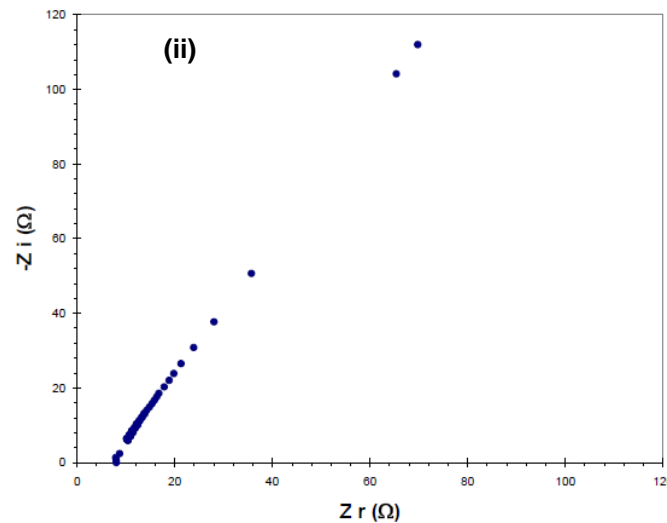

Figure 2 / Rajah 2
- [d] Figure 2 (i) and (i) show the Nyquist plots produced from EIS measurement. Calculate double layer capacitance (C_{dl}) of the samples.